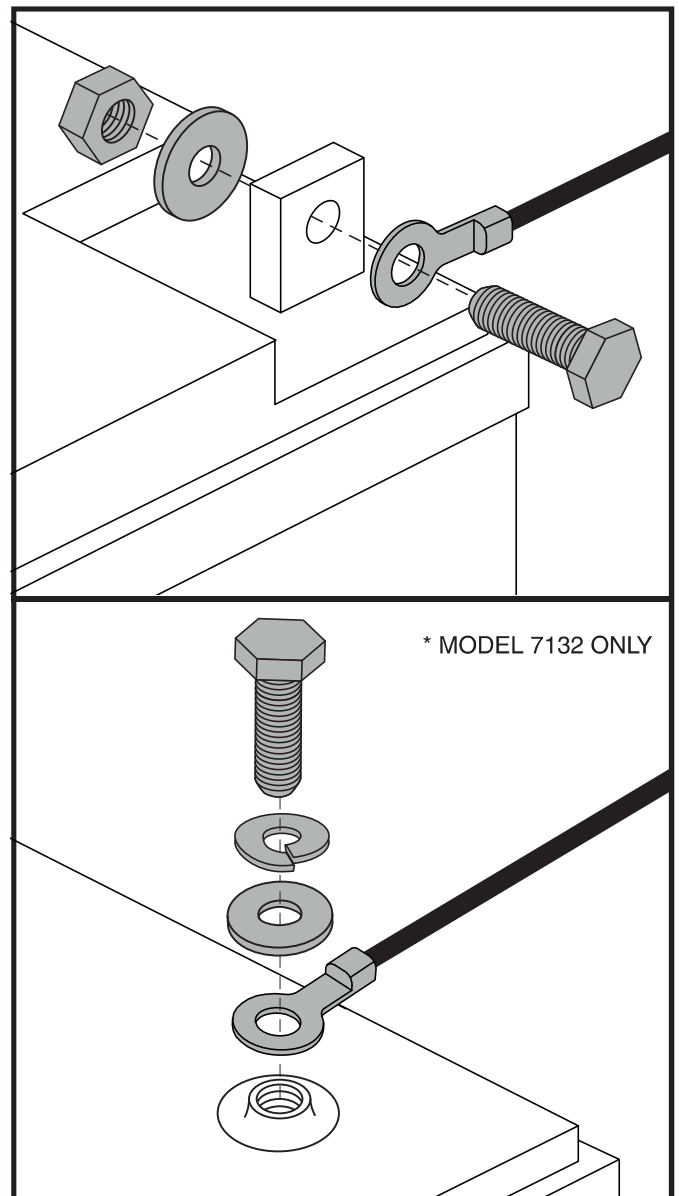

Figure 16. Battery Terminal Hardware
4. Disconnect the battery cables from the battery terminals by sliding back the terminal boots and unscrewing the nut from the bolt. **See figure 16.**
WARNING! When faced with an emergency situation, the batteries can be quickly disconnected by pulling **FORWARD** on the emergency battery disconnect strap. Use caution. Be advised that turning off power to the scooter may cause the scooter to stop abruptly. To release the emergency stop and restore driving capability to the scooter, remove the seat and battery shroud, and reconnect the battery connector as shown in Figure 16.